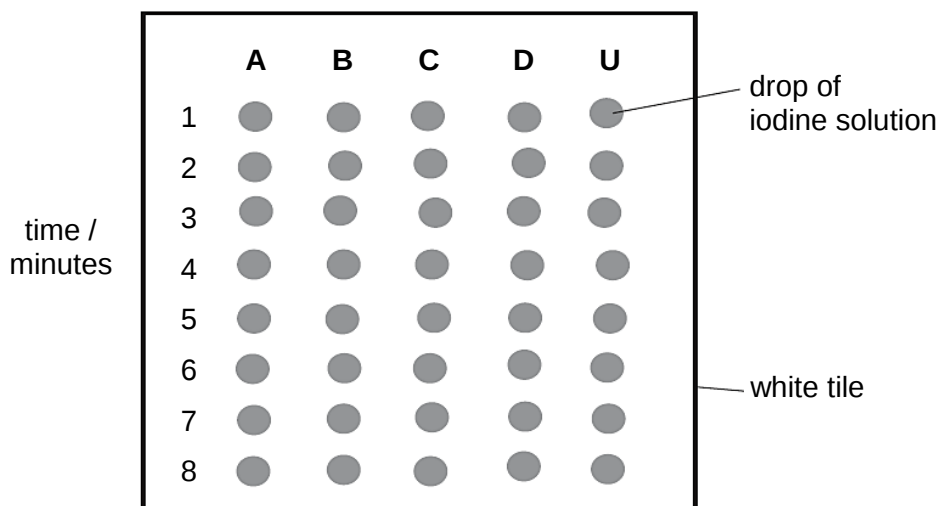

Fig. 1.1
- Step 5 Prepare a white tile by using a pipette to put drops of iodine solution in five columns labelled **A**, **B**, **C**, **D** and **U**, as shown in Fig. 1.1. There should be **8** drops of iodine solution in each column.